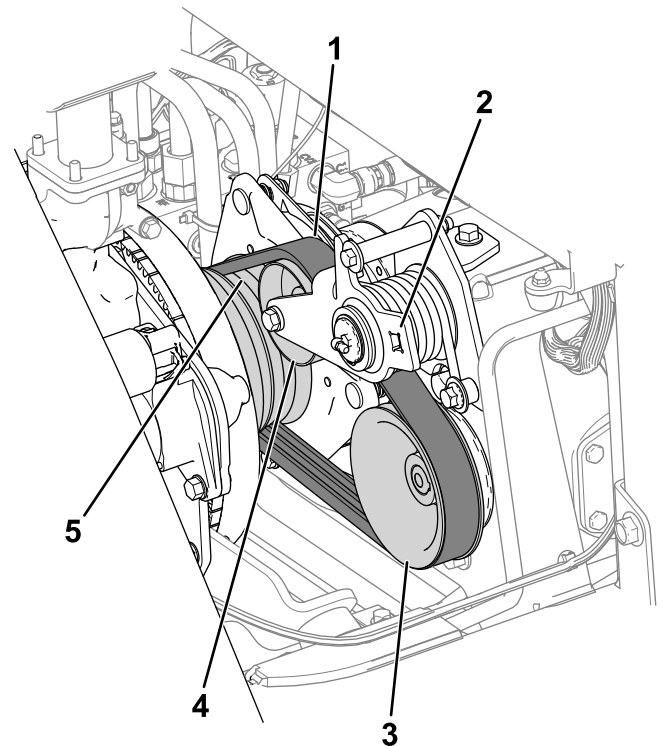

Figure 1
1. Using a ratchet, release the tension from the traction belt (Figure 1).
2. Remove the belt from the idler pulley (Figure 1).
7. Install the belt onto the idler pulley (Figure 1).